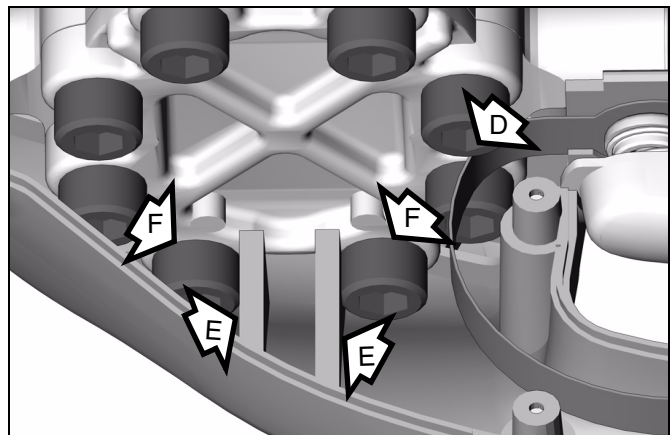
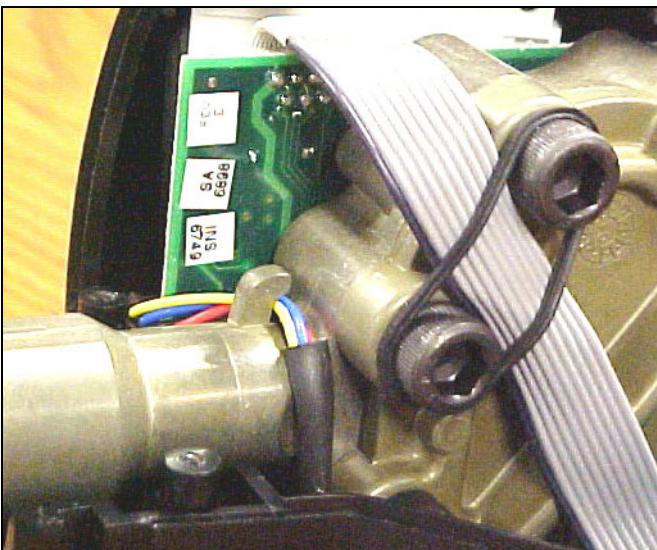
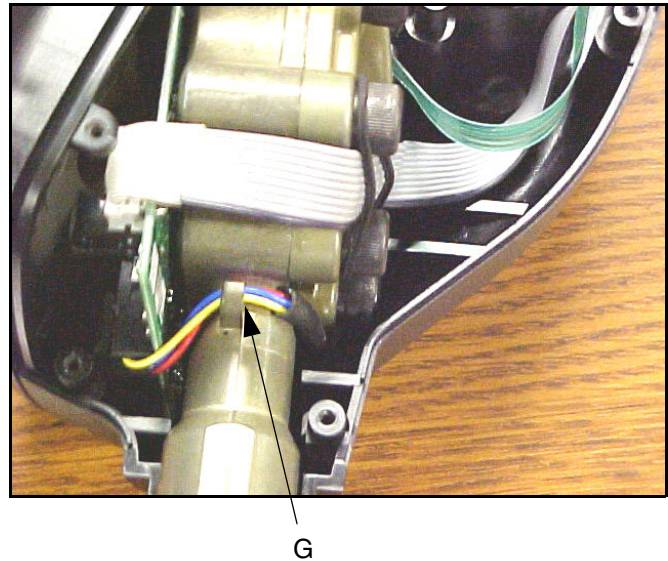

FIG. 45
FIG. 47
FIG. 48
When reconnecting cable D be sure that the wires from the valve housing are properly inserted in the valve housing wire retainer hook (G). See FIG. 48.
16. Place the meter housing into the new right cover half (18) being careful not to dislodge the PSM switch (101).
The two ribs (E) of the new meter cover fit between the two bolts (F) of the meter housing. Be sure not to pinch or crimp the circular switch cable (D) on the new cover half. See FIG. 45.
Ensure that all meter parts are positioned securely and in the correct location. Ensure that all cables are routed correctly throughout the meter and will not be pinched or kinked when the halves are reassembled. See FIG. 47 and FIG. 48.